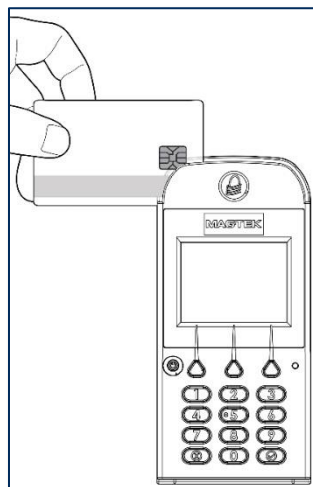

Figure 7-16 - Swiping a Magnetic Stripe Card
- 2) Locate the magnetic stripe reader on the top of the device, shown in **Figure 7-16**.